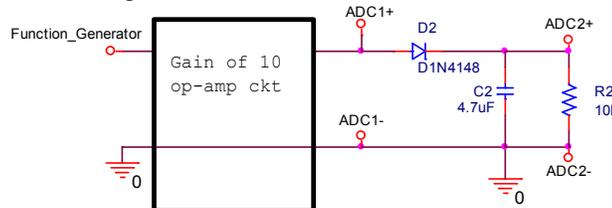

Figure B-8.
- Repeat the procedure above with a 4.7uF capacitor in parallel with the resistor R, as shown in Figure B-8. If your kit doesn't include a 4.7uF capacitor, ask the instructor or TA.